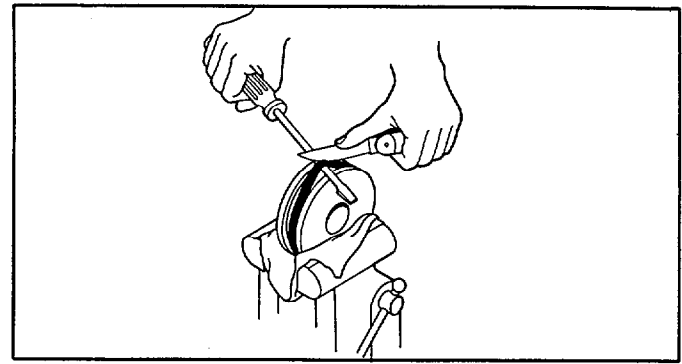

Figure 9. Remove Seal With Dull Screwdriver
1. Piston seals can be pried out of their groove with a dull screwdriver. See Figure 9.